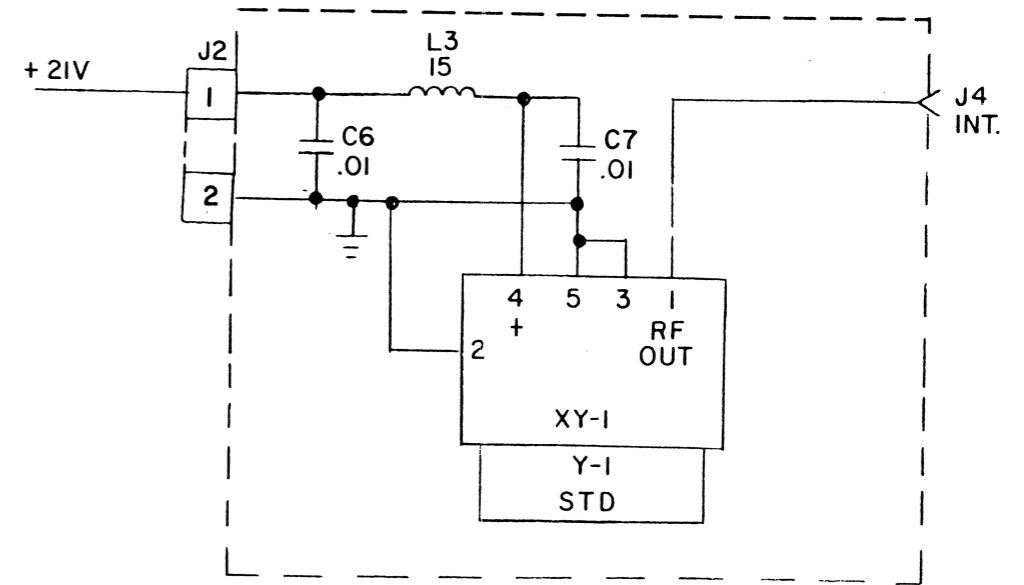
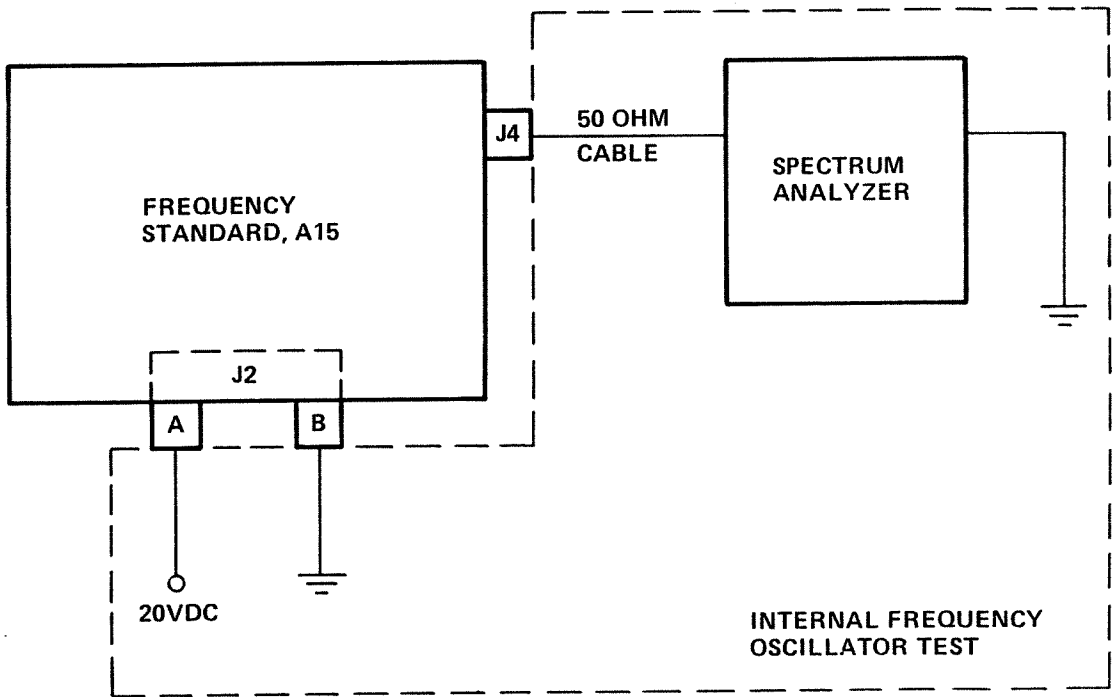
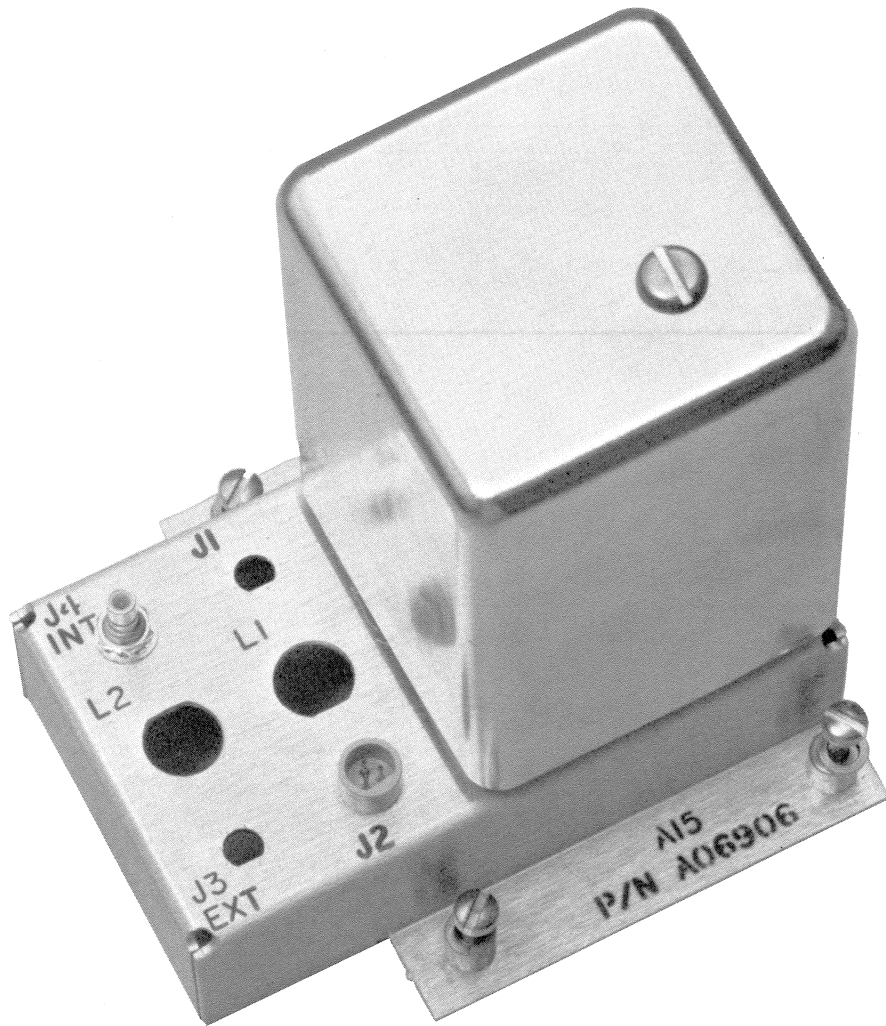
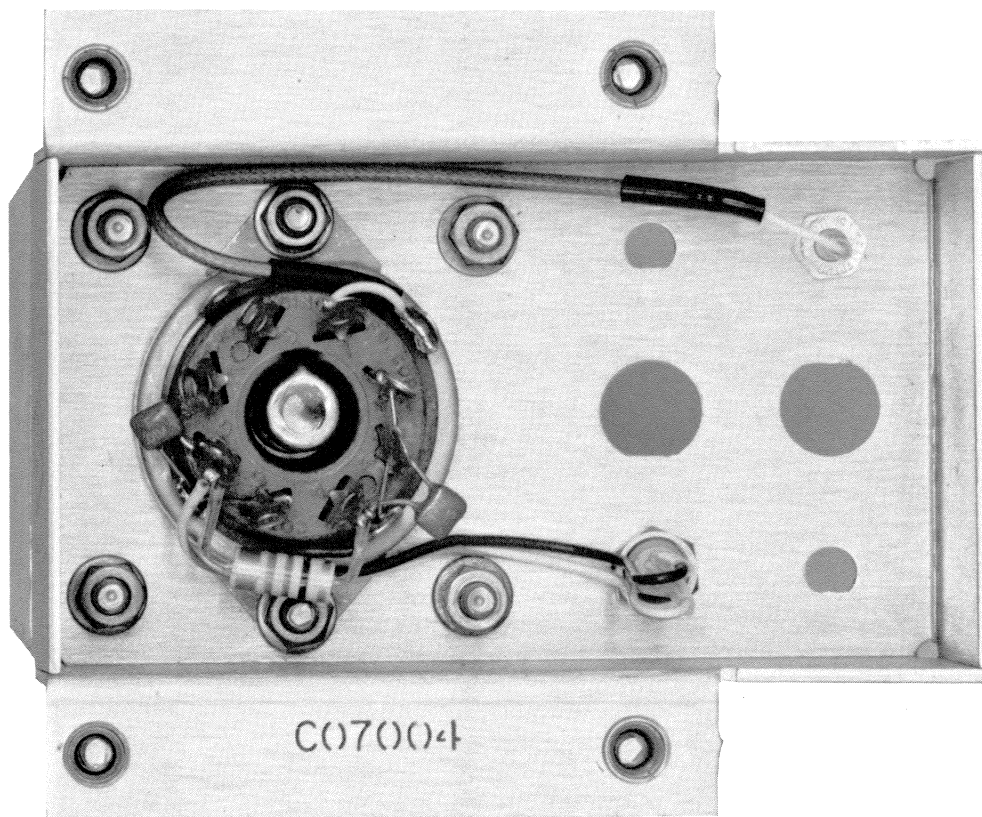

Figure 13-1. Schematic Diagram, Frequency Standard, A15
Figure 13-2. Frequency Standard A15, Test Set-Up Diagram
Figure 13-3A. Frequency Standard A15, Top View
Figure 13-3B. Frequency Standard A15, Bottom View
This module generates the 5 MHz frequency reference standard. It is a temperature-controlled AT-cut crystal oscillator with a single adjustable trimmer to set the frequency precisely to 5 MHz. Provisions exist in the receiver for use of external frequency standards. The oscillator is housed in a proportionally controlled oven which maintains the crystal at its optimum operating temperature. The schematic diagram for A15 is shown in Figure 13-1. Oscillator output is at J4.
The testing and troubleshooting procedures for Frequency Standard Module A15 are designed to check the internal frequency standard of the module. The internal frequency standard is checked with an external 20 VDC connected to the input of the module and then monitoring its output with a spectrum analyzer. A continuity check of the circuits of the internal frequency standard is also provided to aid in isolating specific problems. After a problem has been isolated and corrected the output of that function should then be rechecked, as outlined in the Procedures, before installing the unit into the Receiver. Figure 13-2 shows a suggested test set-up for the Frequency Standard Module. Figure 13-3A shows a top view of the module while Figure 13-3B shows the bottom view. These illustrations along with the Schematic Diagram shown in Figure 13-1 should be referred to while testing and troubleshooting the unit.
1. Connect the Frequency Standard Module to DC power as shown in Figure 13-2.
2. Connect the standard output, of J4 on the module, to the R.F. input on the spectrum analyzer, through a 50 ohm cable as shown in Figure 13-2.